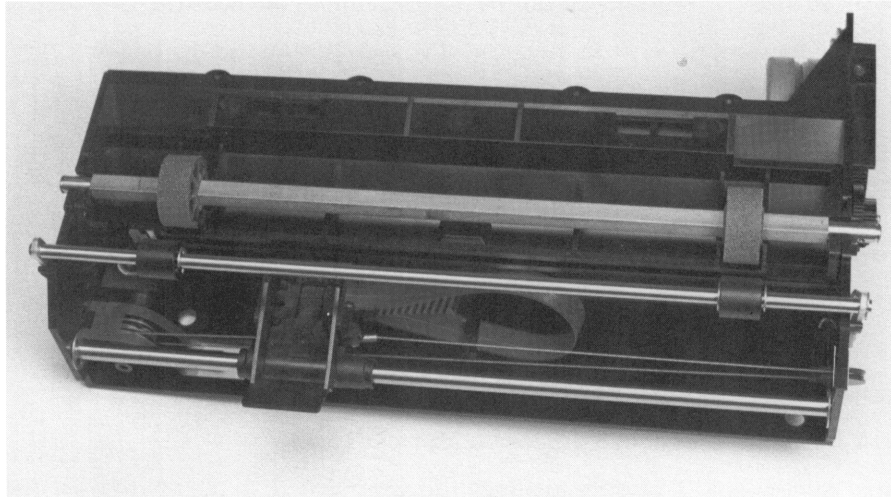

Figure 3-5, Grit Wheel Installation
5. When installing the platen shaft, place both grit wheels on the shaft and temporarily set the shaft in the mechanism with the dowel hole positioned on the right side. Position the wheels so they fit between the flanges on the platen frame. See Figure 3-5.